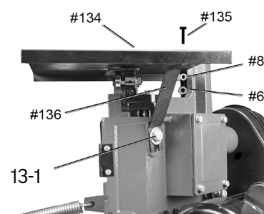

Fig. 13
7. Mount the Vertical Cutting Table Support (#136 [Fig. 13]).
2. Loosen the Bolt and guide the Vertical Cutting Table Support assembly away from the Saw Blade (Fig. 13).